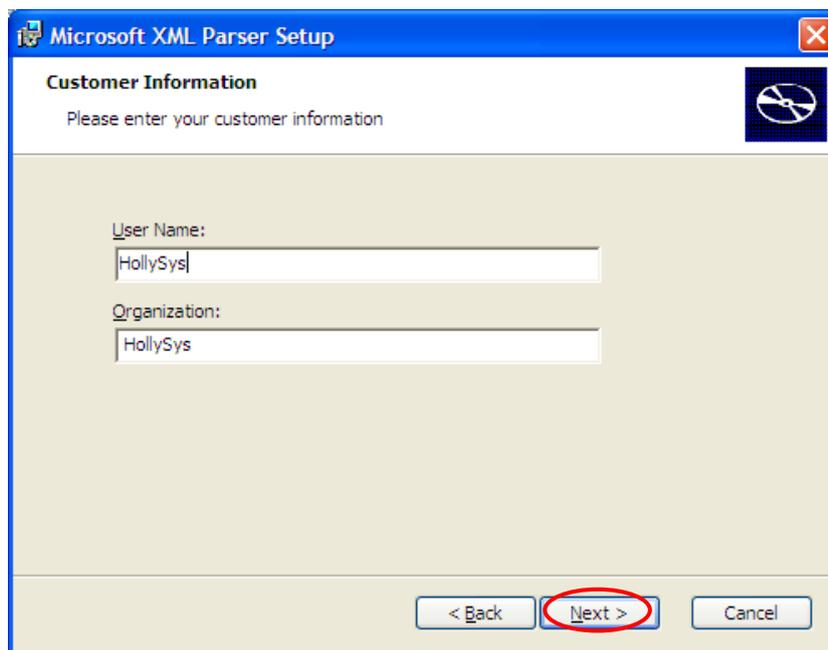

Figure 1-1-7 Installation Steps (7)
- Fill in User Name and Organization and click “Next” button, as shown in figure 1-1-7.